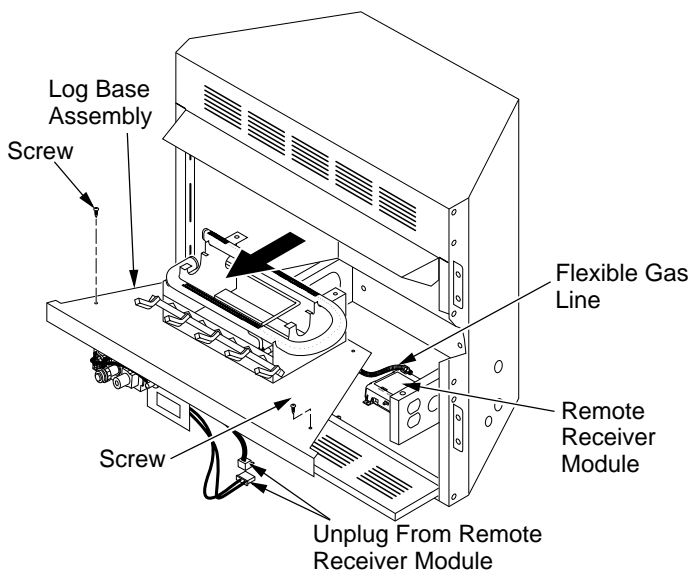

Figure 23 - Removing Log Base Assembly From Fireplace
2. Open lower louver door. Carefully pull straight out on the wire harnesses attached to right side and front of remote receiver module (see Figure 23, page 14).
3. Remove screws that attach log base assembly to fireplace (see Figure 23, page 14). Carefully lift up log base assembly and remove from fireplace (see Figure 23, page 14).